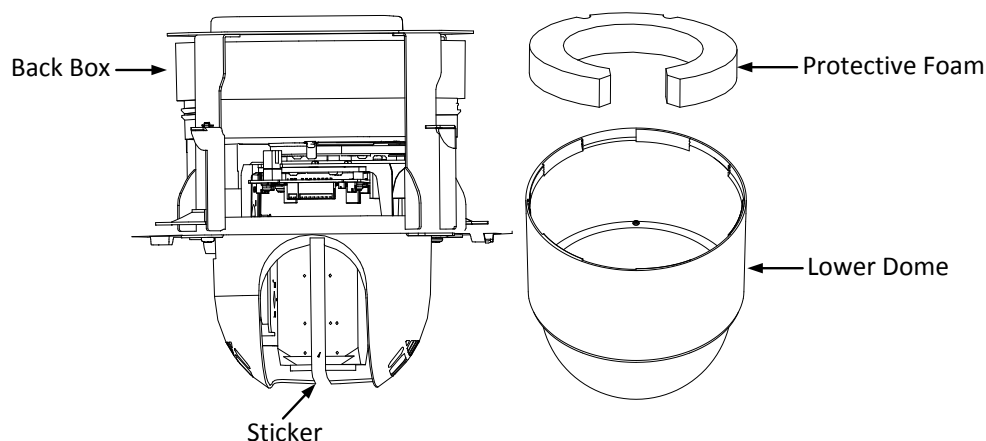

Figure 3-1 Remove the Protective Accessory
1. Rotate the lower dome counterclockwise to separate it from the back box as shown in Figure 3-1.
1. Rotate the lower dome counterclockwise to separate it from the back box. Refer to the Figure 3-1.